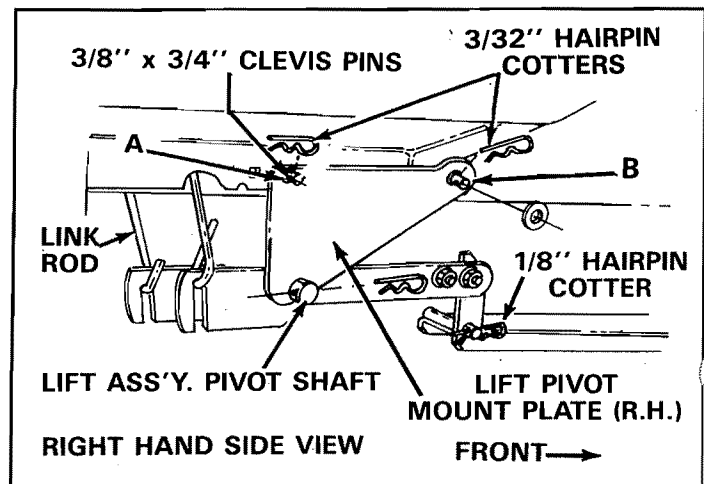

FIGURE 23
2. Refer to figure 23 below and;
- C. Re-assemble one 3/8"-16 x 3/4 carriage bolt and 3/8" hex nut in hole labeled A and B in figure 23 on each side of tractor frame. Also see figure 5 on page 4.